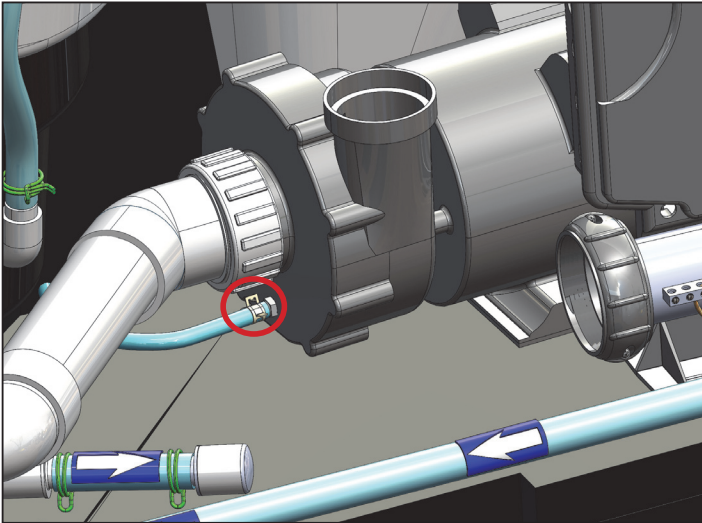

Figure 2.1
1. Locate drain nipple in the front part of the jet pump (Figure 2.1).